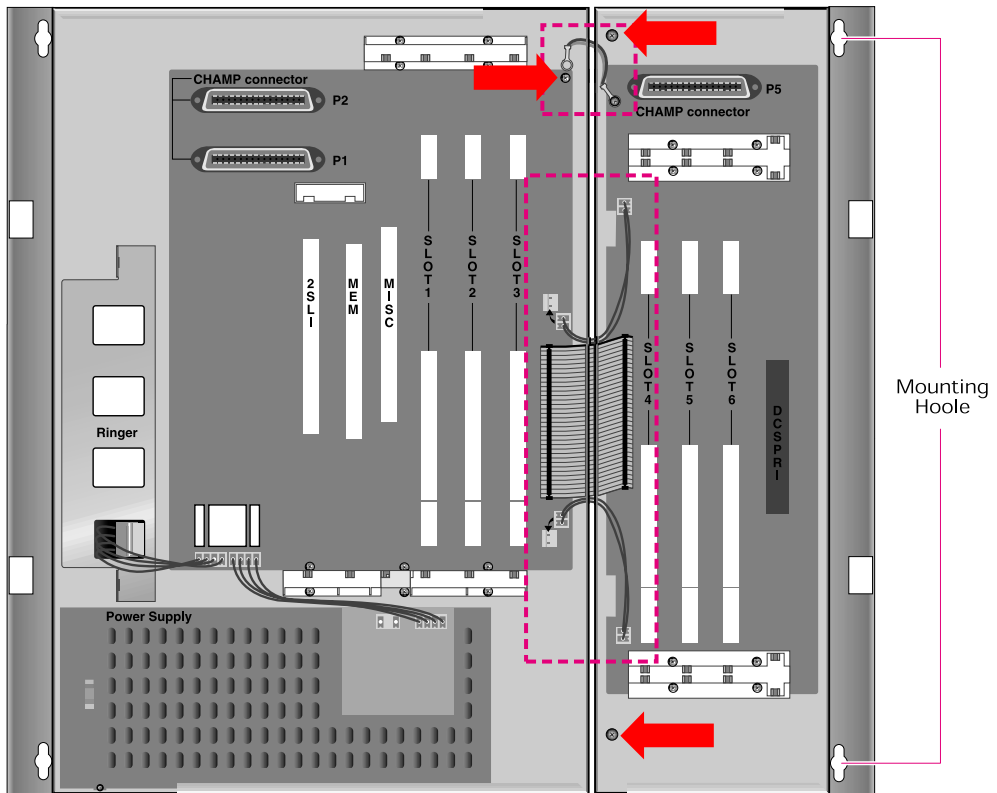

FIGURE 2-6 ASSEMBLE BETWEEN BASIC KSU & EXP.CABINET(2)
4. Fix Expansion cabinet with offered screw to back plane. (See Figure 2-6)
5. Connect Exp KSU to basic with flat cable and 2 wires. (See Figure 2-6)